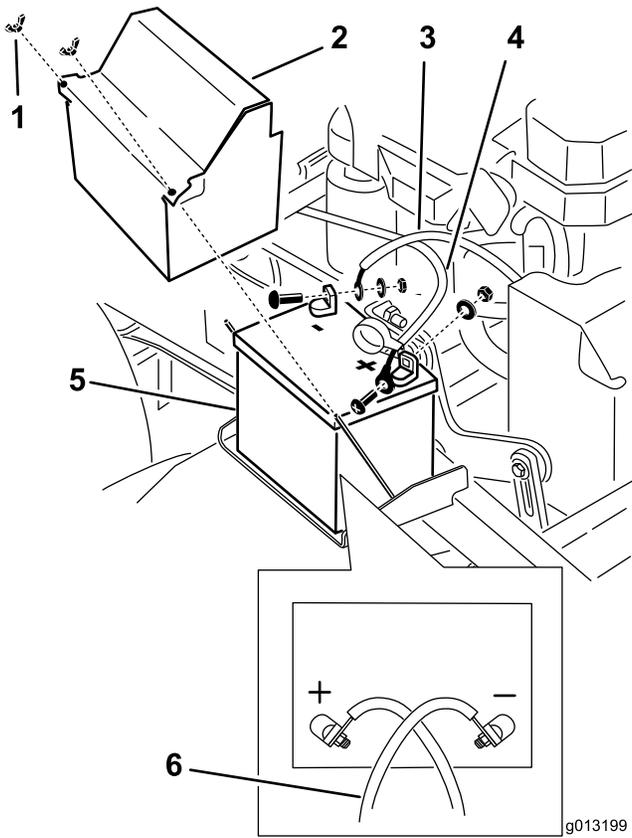

Figure 51
3. Disconnect the negative battery cable from the negative (-) battery terminal (Figure 51).
4. Slide the red terminal boot off the positive (red) battery terminal. Then remove the positive (red) battery cable (Figure 51).
5. Remove the battery hold down plate (Figure 51) and remove the battery.
1. Place the battery onto the machine (Figure 51).
3. First, install the positive (red) battery cable to positive (+) battery terminal with a nut, washer and bolt (Figure 51). Slide the rubber cover over the post.
4. Then install the negative battery cable and ground wire to the negative (-) battery terminal with a nut, washer and bolt (Figure 51).
Note: The battery cables will crossover each other when they are correctly installed (Figure 51).